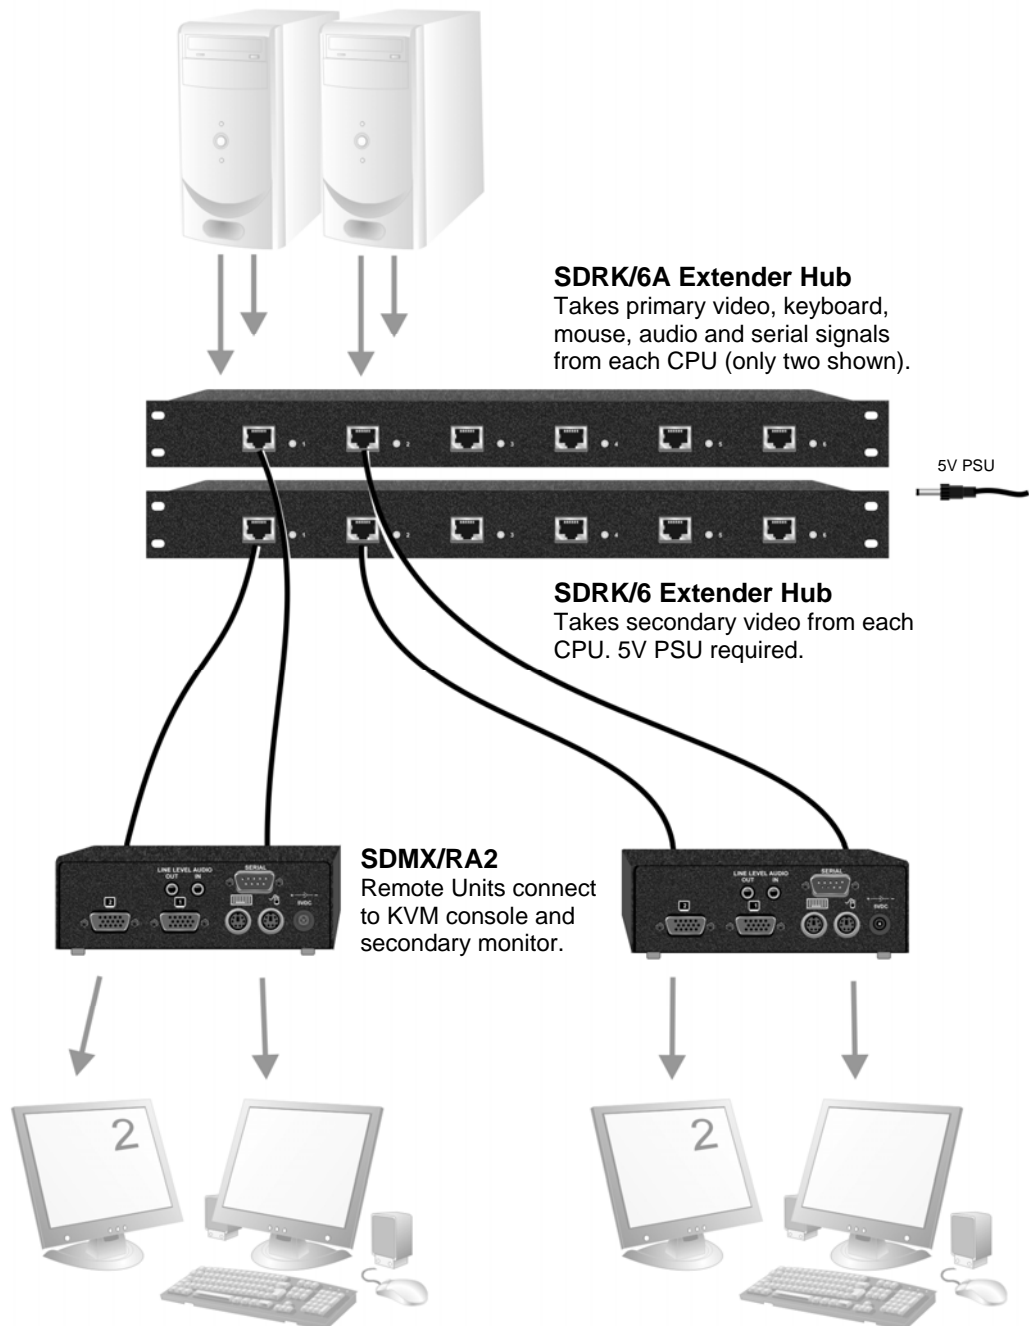

Figure 7 Dual-monitor consoles with serial and audio extension
- Six dual-monitor consoles with serial and audio extension (Figure 7). Requires six SDMX/RA2 Remote Units, and SDRK/6A and SDRK/6 Local Hubs.